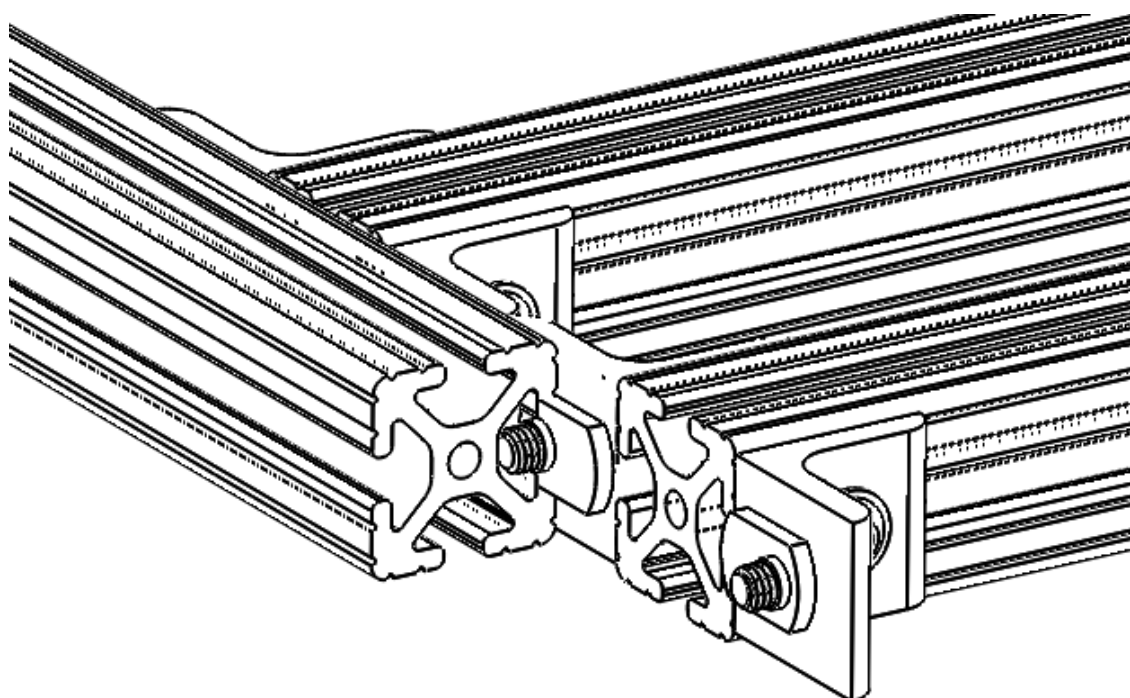

Fig. 3.12: 4 ft beam(#HJXQ) through the end feed fasteners four corner brackets (#REGC)
- ❑ Take the extra 4 feet beam (#HJXQ), and slide it through the end feed fasteners that are free on the other side of four L corner brackets from the two beams assembled in the previous step, as shown in Fig. 3.12.